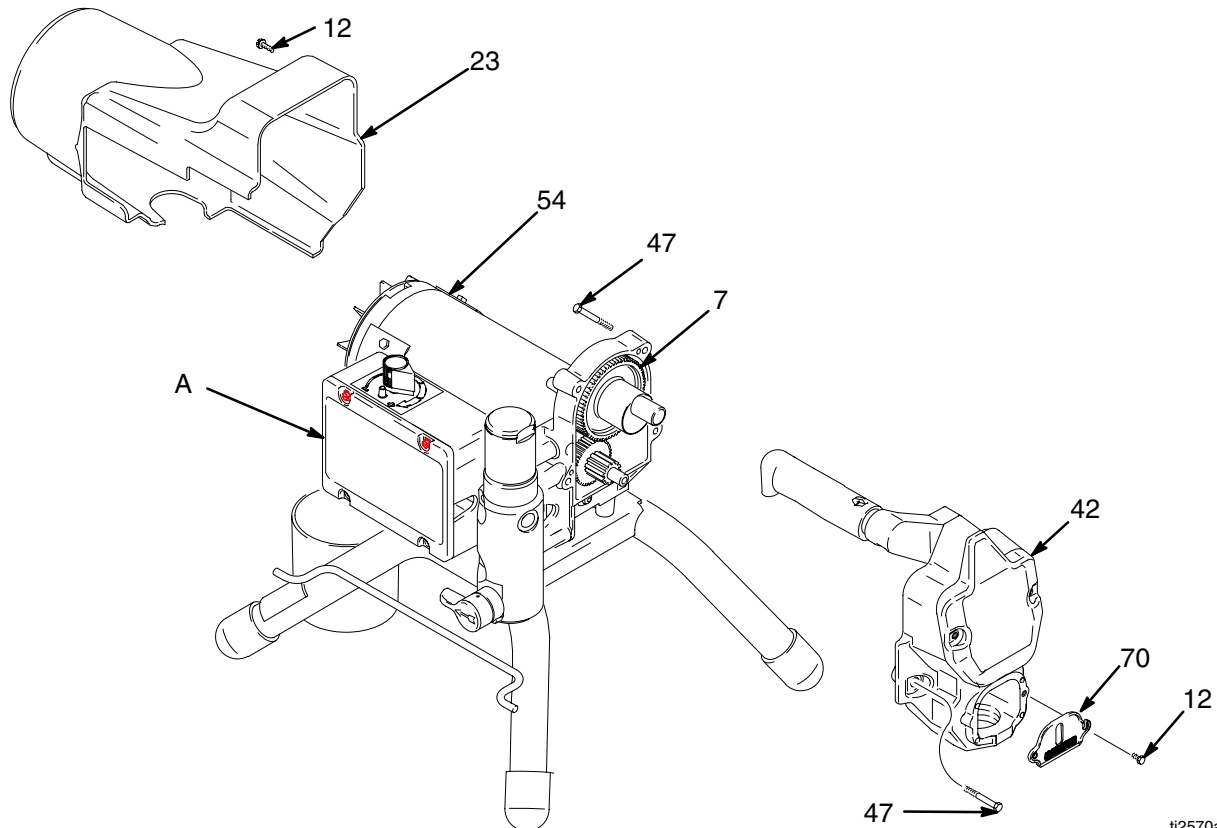

Fig. 8
2. Remove two screws (12) and pump rod cover (70).
3. Remove pump (41); **Displacement Pump Replacement**, page 18.
4. Fig. 8. Remove two screws (12) and shroud (23).
5. Remove two front screws (47).
6. Remove two back screws (47).
7. Pull drive housing (42) off of motor (54).
1. Fig. 8. Push drive housing (42) onto motor (54).
2. Install two front screws (47).
3. Install two back screws (47).
4. Install shroud (23) with two screws (12).
5. Install pump (41); **Displacement Pump Replacement**, page 18.
6. Install pump rod cover (70) with two screws (12).